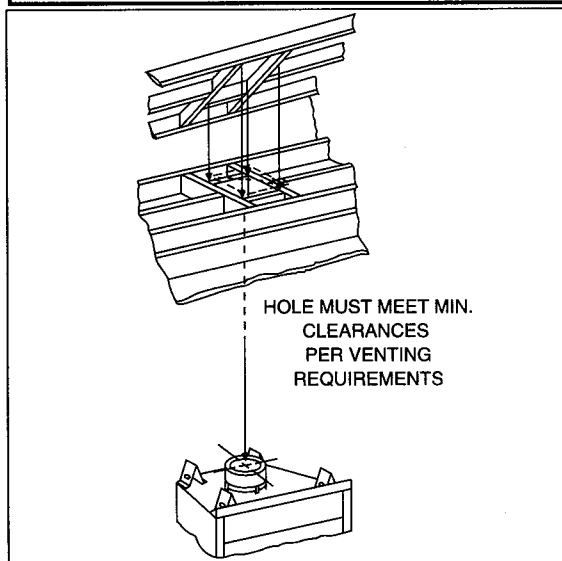

Figure 7
6. Marking the exit point in the roof. Locate the point where the venting will exit the roof by plumbing down to the center of the vent system. Drive a nail up through the roof to mark the center. See Figure 7.